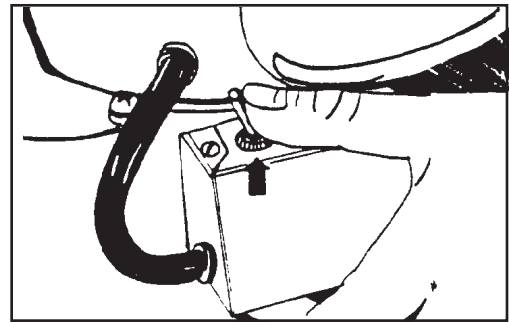

Figure 6
4. Put the variable speed switch in the "HI" position (1). See figure 6. After reaching full speed, put the switch in the "LO" position if low speed is needed.